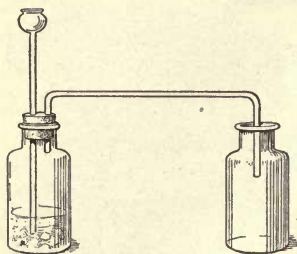

FIG. 234. — Preparation and Collection of Carbon Dioxide.
**Preparation of Carbon Dioxide.** — Place a few pieces of marble or limestone in a bottle (Figure 234) and pour over them